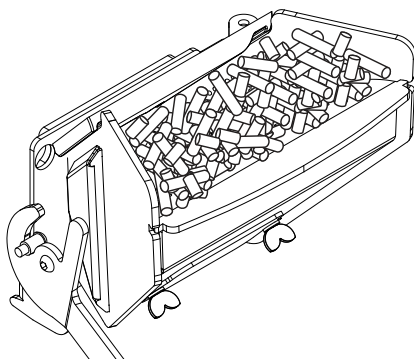

Figure 4.9
3. **Fill burnpot with pellets as shown in Figure 4.9. Only fill level with the front edge. (DO NOT OVERFILL)**